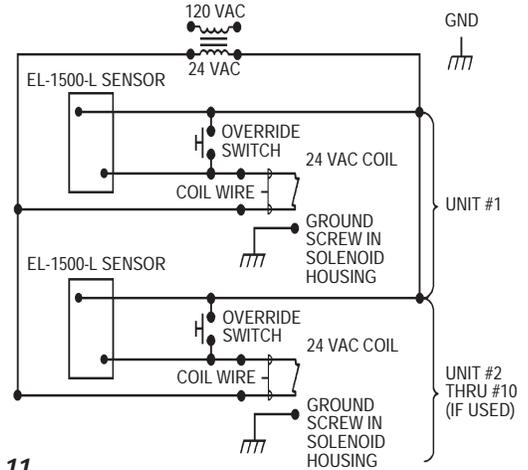

Figure 11
Step 6 — Electrical Hook-Up (Figure 11)
Be certain power is OFF to prevent damage to electrical components. Connect Sensor to Transformer and Solenoid coil EXACTLY as shown in Figure 11 and
- A. **EL-1500-L Sensor is wired incorrectly** — Rewire Sensor and Valve properly (refer to Figure 11).